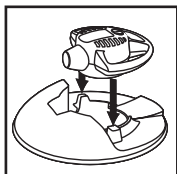

FIGURE 18
37. Reattach portable blower for wet/dry operation by placing power unit back into tank cover pushing in a downward motion until detents engage **FIGURE 18.**